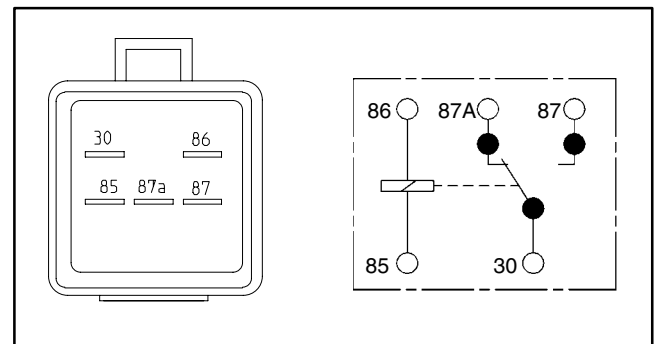

Figure 15
2. Using a multimeter (ohms setting), measure coil resistance between terminals 85 and 86 (Fig. 15). Resistance should be between 70 and 90 ohms.